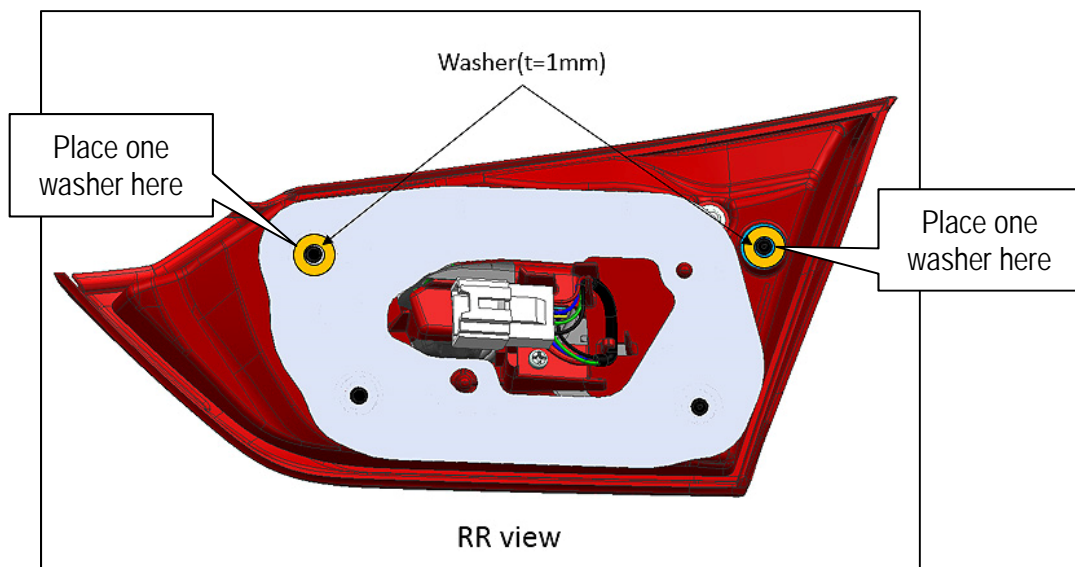

Figure 3
4. Add two (2) washers to each combination lamp; one (1) to each threaded stud where shown in Figure 3.